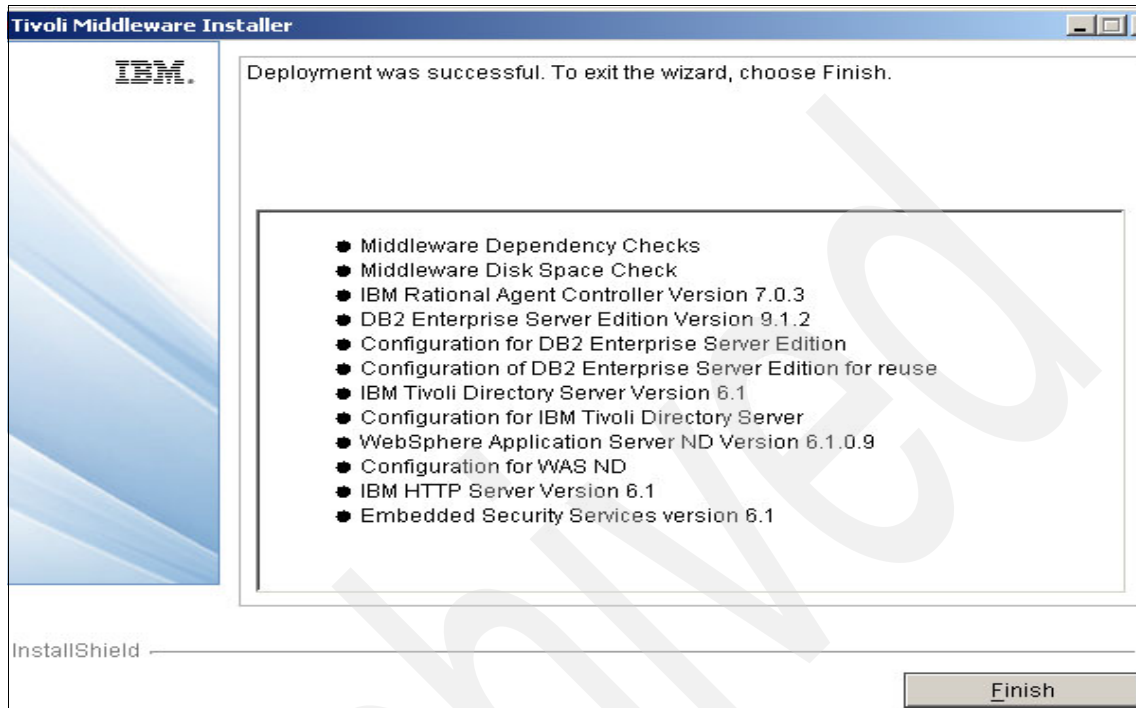

Figure 5-8 Middleware installation completed
11. After the deployment completes successfully, click **Finish** to exit (see Figure 5-8).